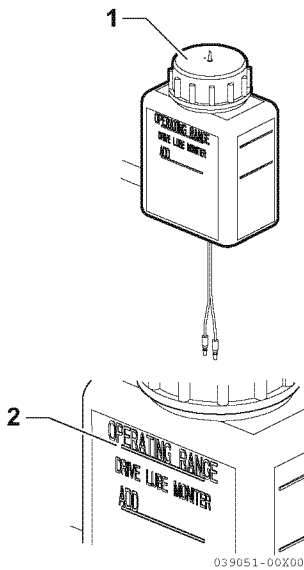

Figure 3
1. Remove the oil reservoir cap (1, **Figure 3**).
2. Fill the oil reservoir to the OPERATING RANGE (2, **Figure 3**) (full) line with specified fluid.